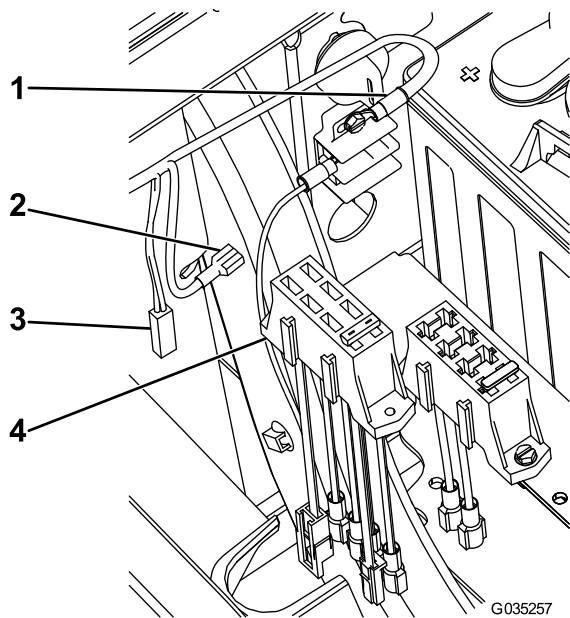

Figure 17
- **For machines with Serial No. 403448001 and before**, snap the new fuse block onto the existing fuse block on the machine (Figure 17).
3. Connect the large connector on the new fuse block to the optional power cable on the existing fuse block (Figure 17).
- Connect the remaining wire to the fused wire on the new fuse block (Figure 17).
- For machines with Serial No. 403448001 and before, snap the new fuse block onto the existing fuse block on the machine (Figure 17).
- Connect the large connector on the new fuse block to the optional power cable on the existing fuse block (Figure 17).
6. Connect the remaining wire to the fused wire on the new fuse block (Figure 17).